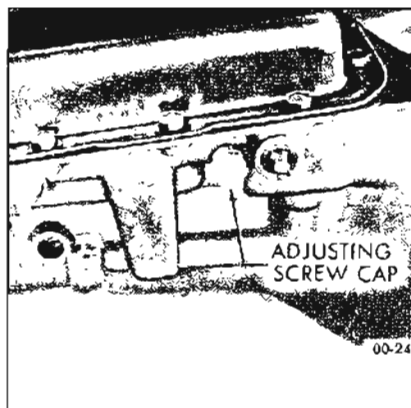

Figure 00-24—Installing Adjuster Screw Cap
3. Replace adjusting screw cap. Refer to Figure 00-24.